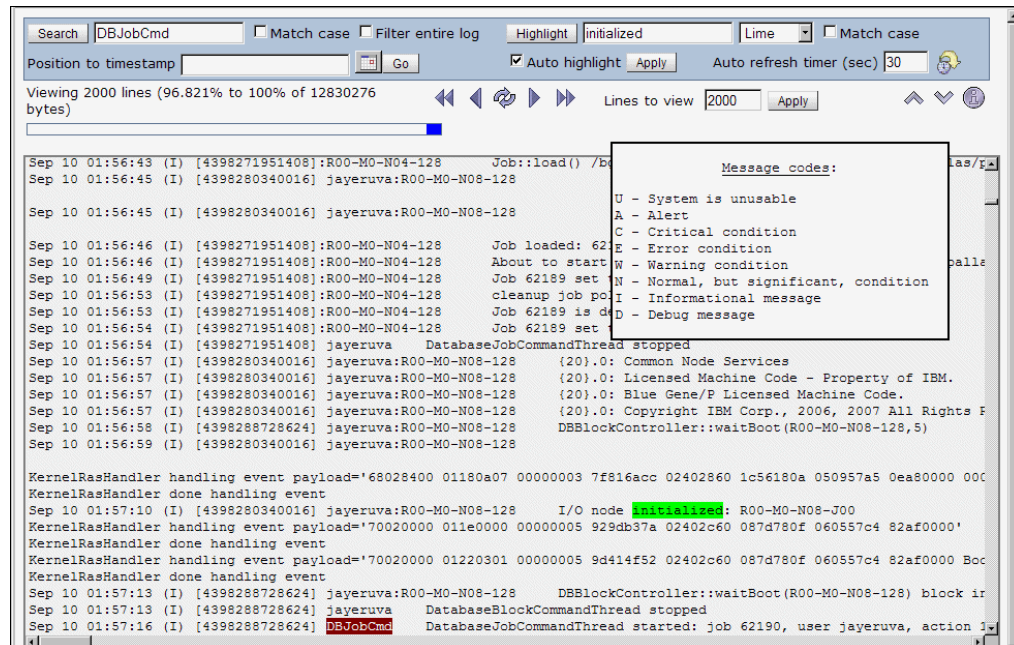

Figure 2-39 Log viewer features
Figure 2-39 shows a number of log viewer features. These features assist you in the following areas:
- ▶ **Highlighting:** Two independent highlighting schemes are available. In Figure 2-39, the auto highlight feature displays lines in various colors (for example, error messages are displayed in red), and the manual highlight feature is highlighting the text *job* in line.
- ▶ **Hints:** Hover your mouse over any of the log file viewer icons, and the viewer provides a *hint* that describes that icon's function. In addition, if you hover your mouse over the information (*i*) icon, the log viewer displays the message code descriptions as shown in Figure 2-39.